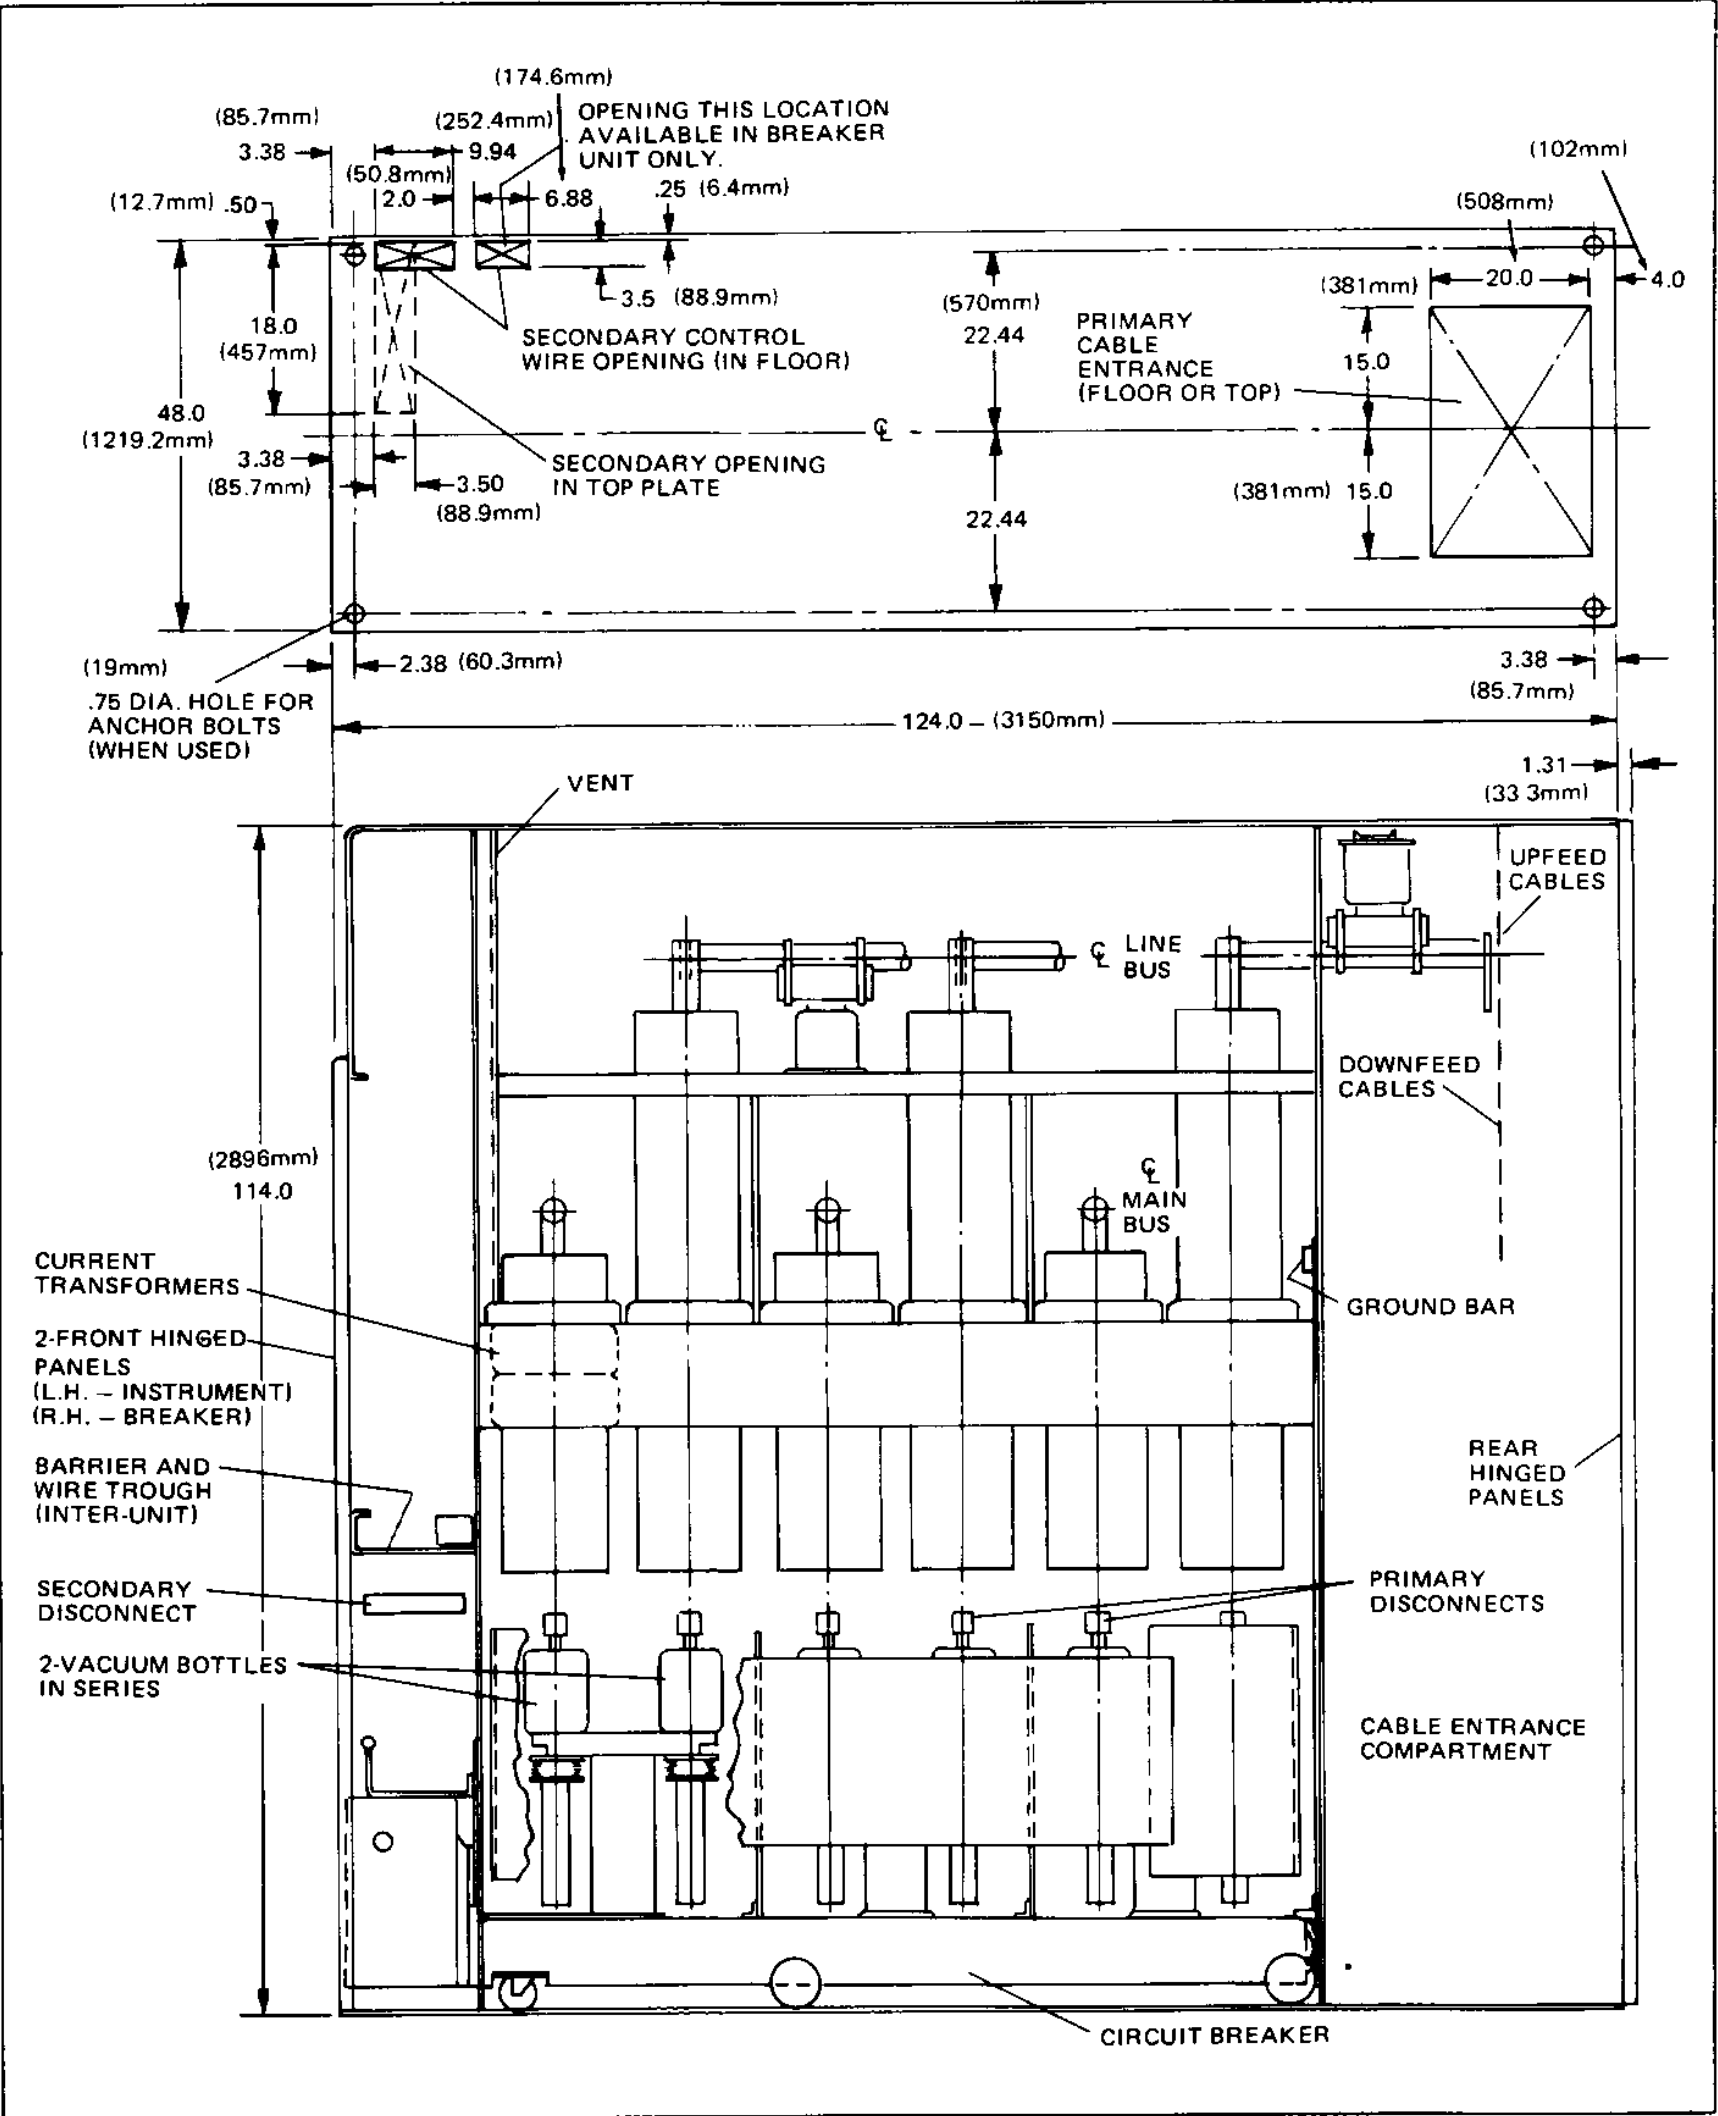

Figure 9. Floor Plan and Side View of Typical 34.5 kV Indoor Cubicle
1. The switchgear equipment represented was accurately aligned on level steel bed plates at the factory. This care insures proper operation and fit of mating parts. Supporting surfaces for the switchgear at each mounting bolt location must be level and in the same plane. There must not be any projection above this plane within the area covered by the switchgear cubicles. If customer's floor or grouted sill channels do not meet this requirement it will be necessary to shim in the following manner. The four (4) anchor bolt locations in each cubicle must freely rest in firm contact with the mounting support surfaces. There must not be any projection or obstruction in other areas which may distort cubicle. Do not force cubicle into firm contact by drawing down mounting bolts as such drastic means will distort cubicles. Add 4 (100 mm) square shims adjacent to anchor bolts until firm contact is achieved. Check each bolt location, 4 per cubicle, and tighten bolts (see Fig. 9).